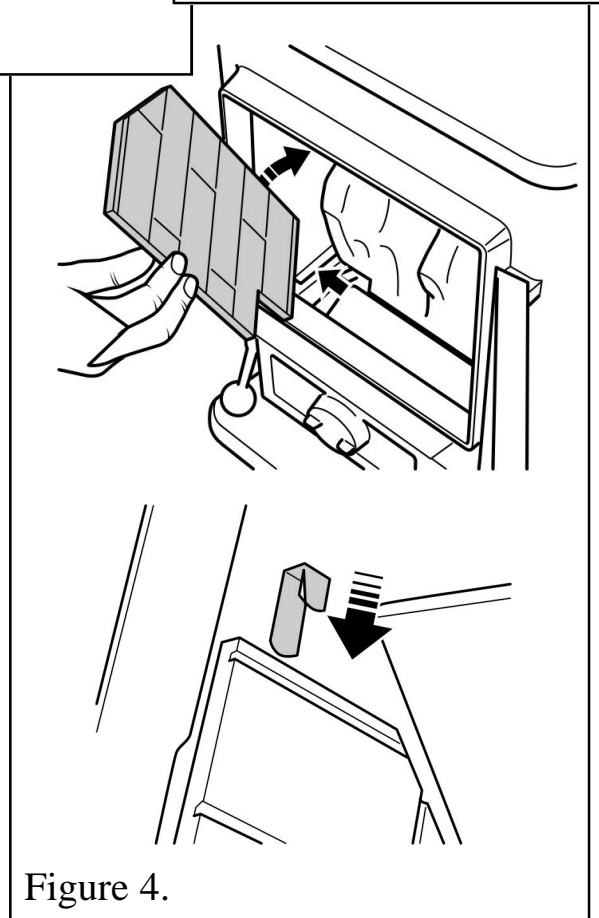

Figure 4.
5. Fit the left hand side wall against the left hand side of the firebox. Locate the bottom of the side wall into the channel along the bottom of the firebox (See figure 4). Supplied with the stove are two ceramic retaining brackets. One for each side of the firebox. Hold the ceramic side wall against the steel firebox plate and slide the long leg of a retaining bracket behind the steel firebox plate. Push down to hold the ceramic side wall in place.